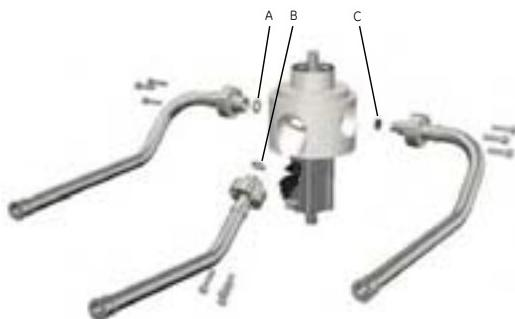

Figure 5.69: **A:** Slurry inlet o-ring, **B:** Bottom mobile phase inlet/outlet o-ring, **C:** Rinse inlet o-ring
- 7 Remove the 3 tubes and their o-rings from the media valve body (see Figure 5.69):
- Slurry inlet (A),
- Bottom mobile phase inlet/outlet (B),
- Rinse inlet (C).